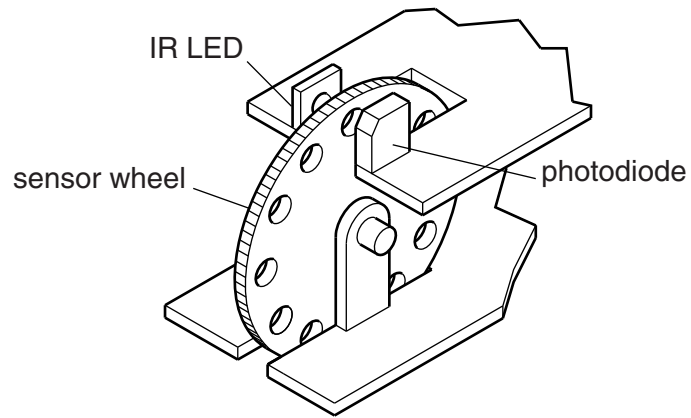

Fig. 5
- (c) An alternative method of sensing is shown in Fig. 5.